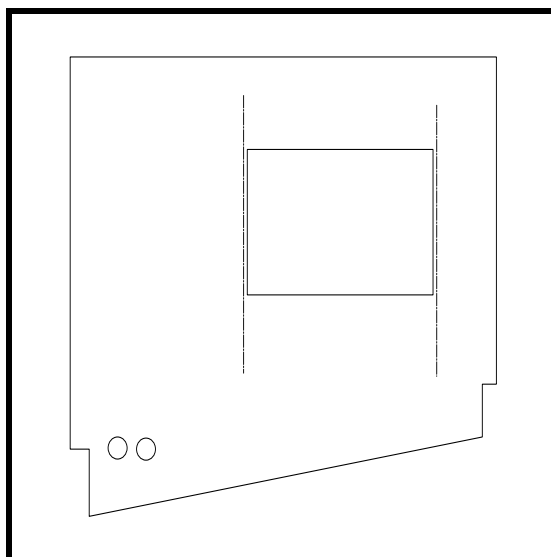

Figure 31
- ❑ Locate the center of the battery hold-down bolts. The hardware is included in the electrical kit. The battery is held down with two 1/4" bolts which are installed with a P/N 846 single-bolt channel-nut. The channel-nuts are installed under the floor with a 15mm-thick spruce block. The bolts come up through the floor on each side of the battery. A nylon bar is installed over the bolts and battery and is held in place with wing nuts. The nylon hold-down bar has the 1/4"Ø holes drilled at 10.13" between centers for the Gill PS6-11 and 8.05" between centers for the Gel/Cell battery. Until you have the battery, you will not be able to exactly locate the B.L. position of the holes. See Figure 31.